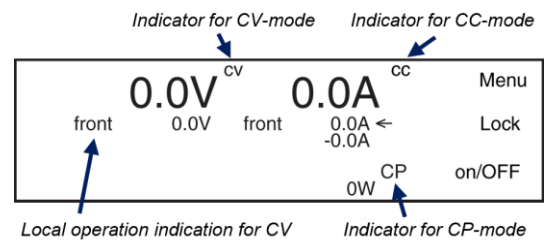

Figure 8.3: A unit is either in CV, CC or CP mode, indicated next to the measured values of respectively the output voltage, output current or the output power.
- Depending on the load and the settings, the unit will be either in CV, CC or in CP mode. See Figure 8.3.